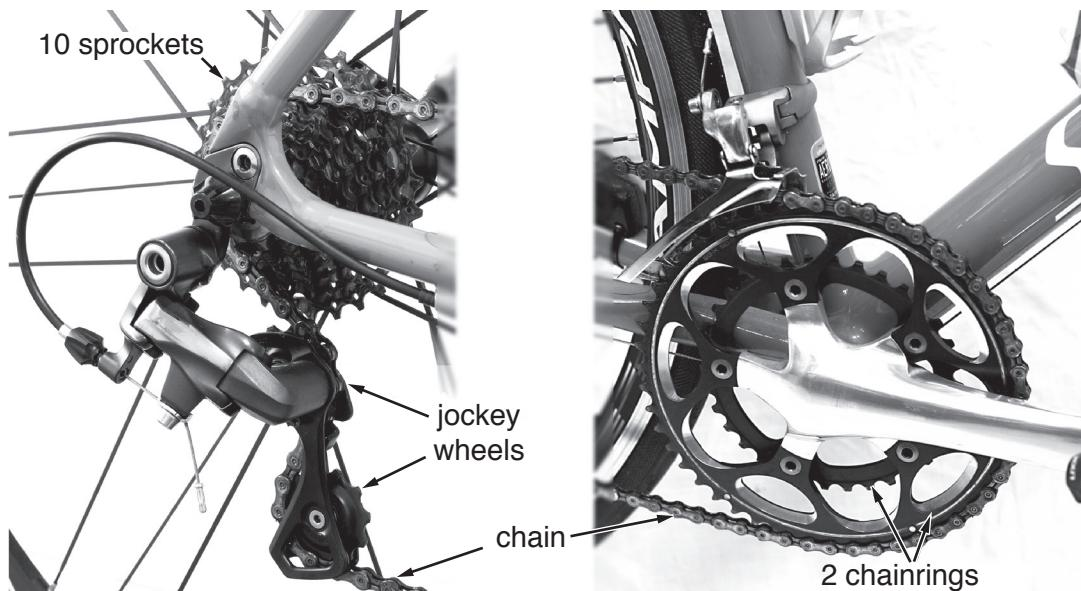

Fig. 11
- 11 Fig. 11 shows views of the chain drive on a cycle.